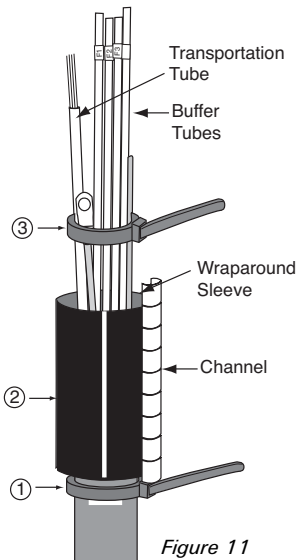

Figure 11
- Place a tie wrap at the pencil mark on each cable sheath. Wrap the heat-shrinkable sleeves (available in FOSC ACC CB Sleeve W Kit and some Basket kits) around the adhesive tubes. Slide the channels over the rails. (Figure 11) Let the sleeves slide down and rest on the tie wraps. If a bond wire is present, rotate the channel at least 90° from the bond wire.
- Place another tie wrap around all tubes and wires above the sleeve. (Figure 11, Step 3)